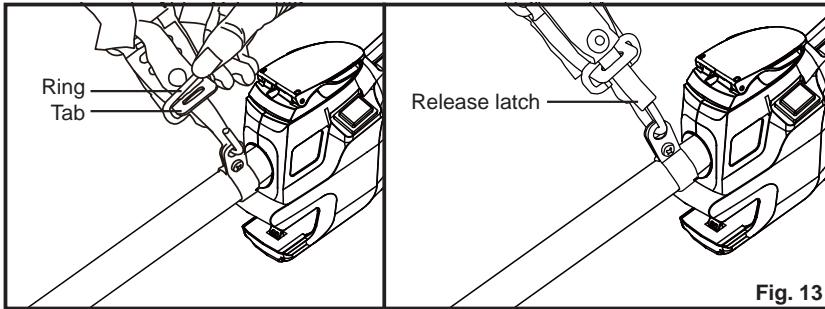

Fig. 13
- Insert the tab on the shoulder strap into the ring on the hook. Then insert the release latch into the tab. Check to ensure the shoulder strap is attached securely (Fig. 13).